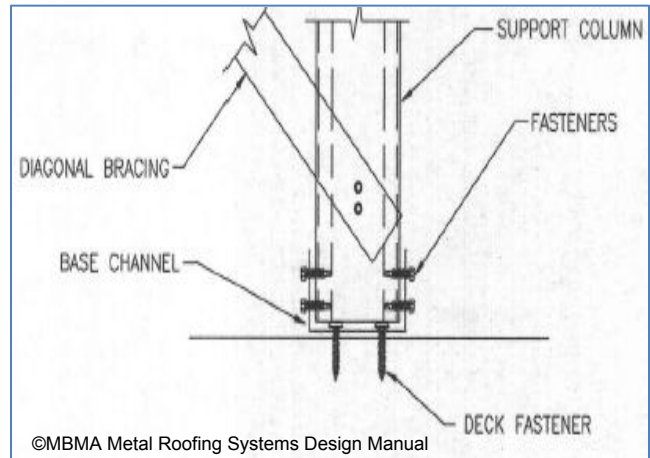

Figure 20-4
2. Provide continuous attachment to the existing structure (Figure 20-4)